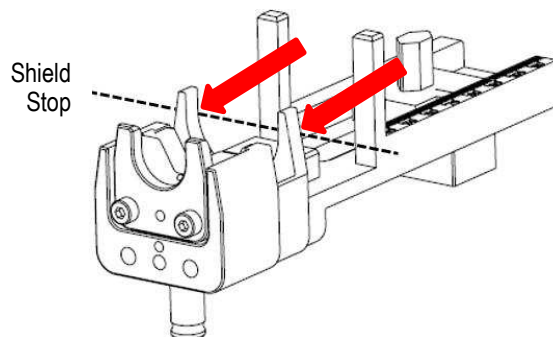
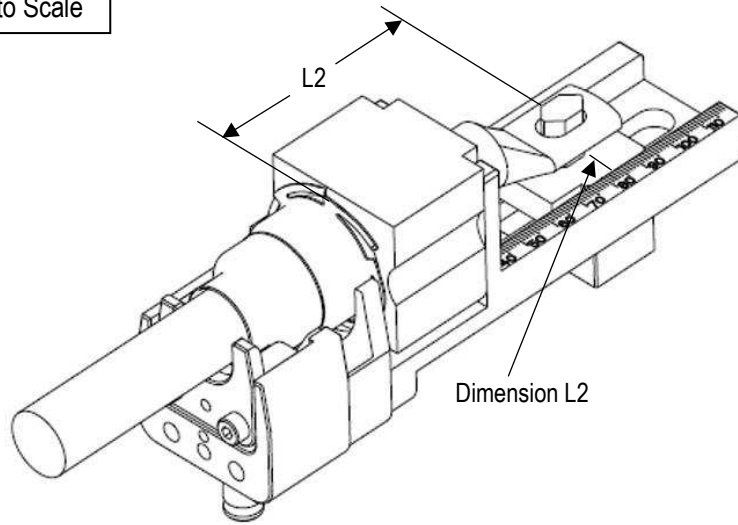

Figure 3
Figure 4
1. Install the ferrules (EMC Crimp Contact PN 1670814-1 and EMC Crimp Sleeve PN 1670813-2) on the prepared wire assembly in accordance with the 114 Series Application Specification referenced in Figure 1. **NOTE:** If installed correctly, when the flange of the EMC Crimp Sleeve is against the Shield Stop (see Figure 3), dimension L2 on the Terminal Locator will be as specified (see Figure 4).